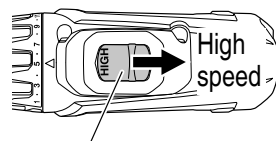

**Fig. 9**
The L-side of the selector button is pushed to turn the bit counterclockwise. (See **Fig. 9**) (The (L) and (R) marks are provided on the body.)